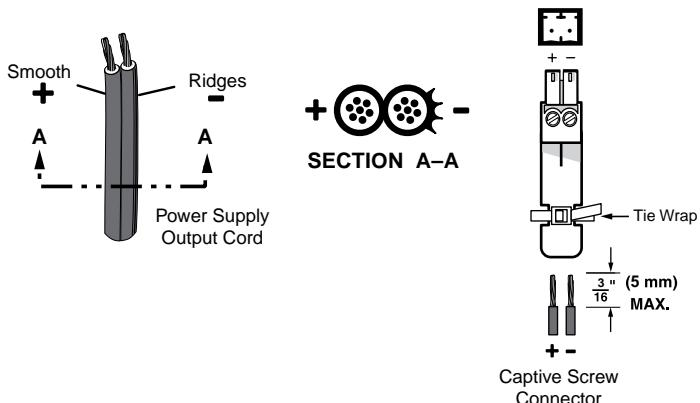

Figure 2. Power Connector Wiring
Figure 2 shows how to wire the connector. Use the supplied tie-wrap to strap the power cord to the extended tail of the connector.
- Power supply voltage polarity is critical. Incorrect voltage polarity can damage the power supply and the unit. The ridges on the side of the cord (see **figure 2** on the previous page) identify the power cord negative lead.